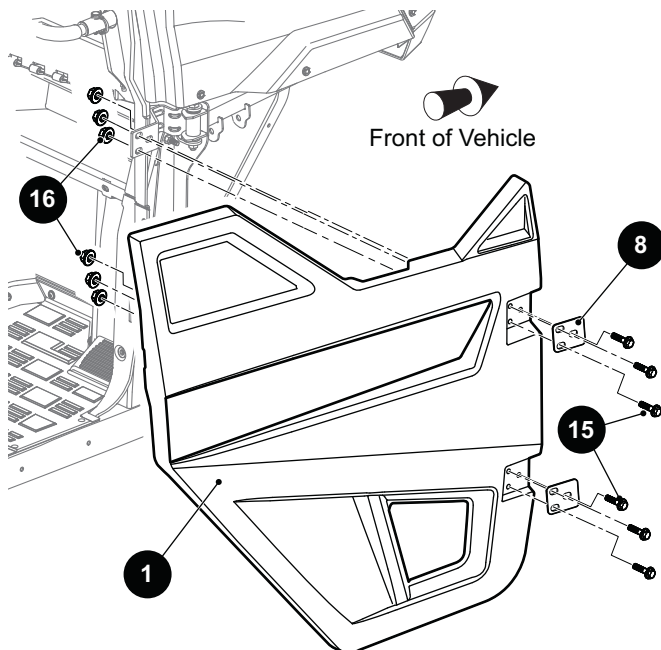

Fig. 8 Door
1. Remove the bolts (15), nuts (16) and hinge plate (8) that secure the door (1) to the upper and lower door hinges (See Fig. 8).